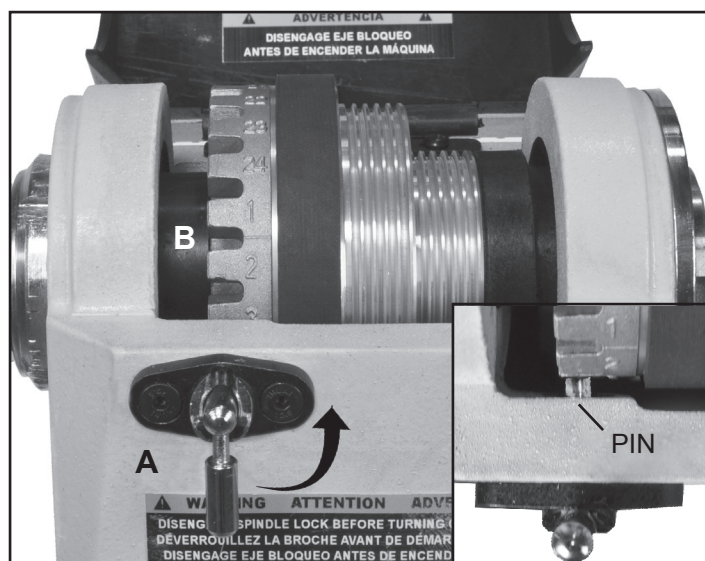

Fig.5.1.1
1. HEADSTOCK SPINDLE LOCK: The spring loaded Index Pin Assembly (#29B, FIG. 5.1.1, A) is used to position the spindle for making accurate, spaced pattern work on projects such as straight fluting, grooving, drilling, detail carving, wood burning patterns and laying out designs. See page 14 for more information on indexing.
2. HEADSTOCK INDEXING HOLES: (FIG. 5.1.1, B) The largest Spindle Pulley (#7B) has 24 positioning ‘holes’ located around its left side. Each index hole is 15° apart, and marked for reference around the pulley perimeter. Insert the Indexing Pin (A) into one of these holes, and the spindle will be locked so that work can be done on the workpiece. See page 14 for additional information.